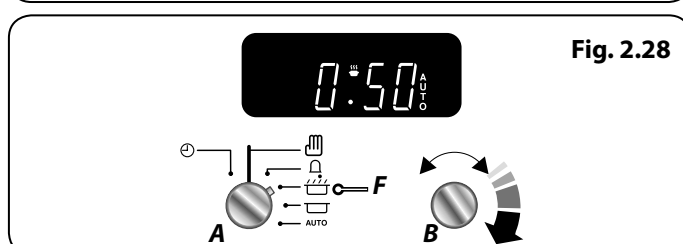

Fig. 2.28
1. Turn the **Timer (A)** knob to the **Cook Time (F)** setting. Turn the **Adjusting (B)** knob clockwise to set the length of the cooking time required e.g. 50 seconds (**Fig. 2.28**).